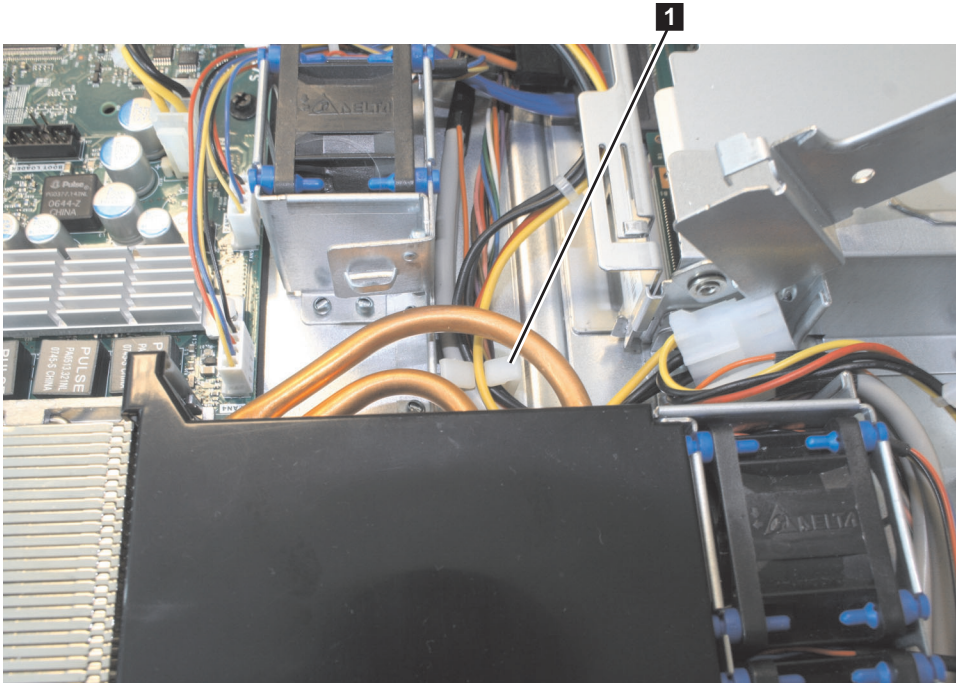

Figure 159. The retention clip for the SAN Volume Controller 2145-8A4 power-supply cables
6. Route the power-supply cable with the P5 connector to the CD/DVD interface card and secure it under the retention-clip **1**, as shown in Figure 159 on page 168, on the chassis.